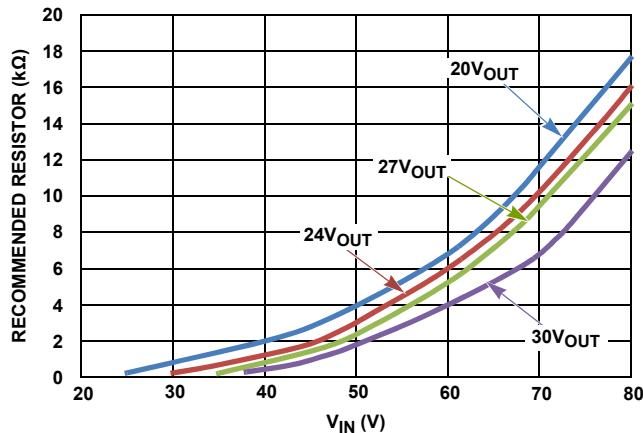
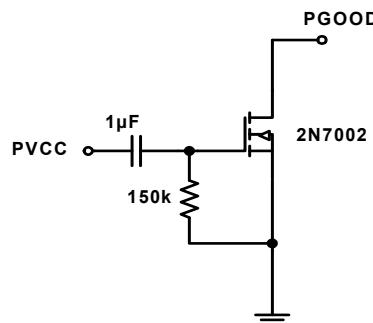

FIGURE 23. RECOMMENDED EXTERNAL RESISTOR VALUE FROM BOOT TO PVIN
FIGURE 25. PGOOD DELAY CIRCUIT
The internal bootstrap diode connected to the PVCC pin provides charge for the internal bootstrap capacitor. For above 12V_{OUT} applications, a resistor connecting between BOOT pin and V_{IN} pin is recommended for certain conditions. Refer to Table 3. This resistor provides additional bootstrap charge introduced from V_{IN}, which can ensure the gate drive circuit functions properly at very light load. See Figure 23 for the recommended external resistor values at 20V_{OUT}, 24V_{OUT}, 27V_{OUT}, and 30V_{OUT} conditions. A minimum 0.25W power rating is recommended for this resistor.
For >12V_{OUT} applications where V_{IN} power-up/down (module self enable/disable) is required and PGOOD signal is utilized, a PGOOD delay circuit and a 1kΩ, 1W rating dummy load resistor are recommended. The PGOOD delay circuit is shown in Figure 25. Note when the dummy load resistor is used, the resistor between V_{IN} and BOOT (Figure 23) is no longer required. During V_{IN} power-up (module self enable) for >12V_{OUT} applications at very light load current, without such a delay circuit, V_{OUT} may have a drop after initially reaching the target due to the lack of bootstrap charge. With such a delay circuit, the PGOOD signal can be delayed for 250ms. For applications of ≤12V_{OUT}, the PGOOD delay circuit is not required.
- Refer to Figure 23 for VIN-BOOT resistor (R_{BOOT}) value.